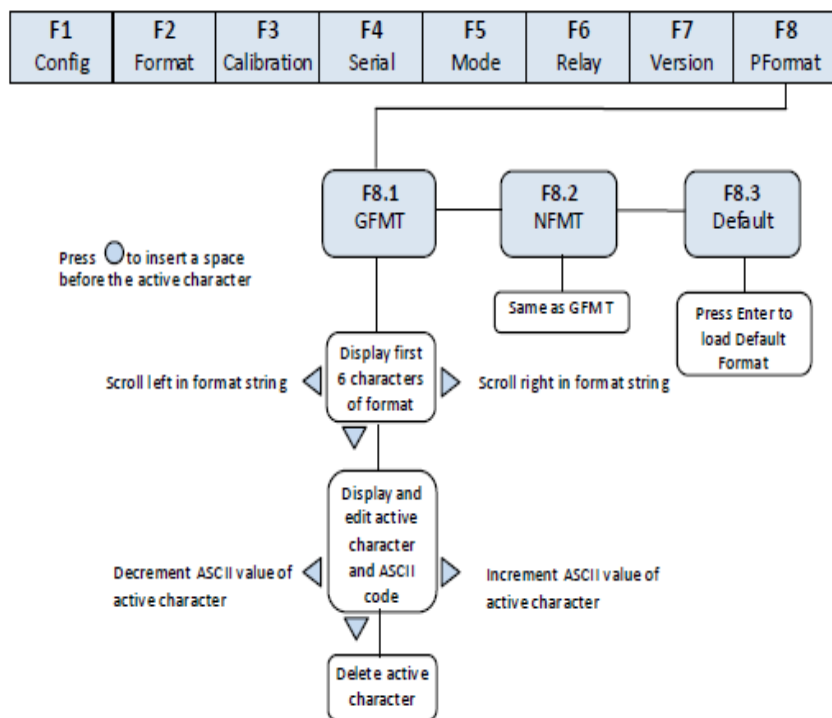

Fig. 13.2.1 Print Format Input Flow Diagram
- (1) Turn on the SW2 switch to set indicator to the Configuration mode (display shows "F1")
- (2) Press  to show "F8" (see Fig. 13.2.1). Press  to Print Format Menu and display shows "F 8.1".
- (3) When display shows "F8.1", press  again and display shows the first 6 digits of GFMT format.
- (4) Use ,  to move the cursor to different flashing digits. When it is at the far right position, press  again, the first digit at the left is removed and another digit prompts up at the right. When it is at the far left position, press , the last digit at the right is removed and another digit prompts up at the left. Press  to add a space to the left of the flashing digit.
- (5) When the cursor is at a certain digit position, press  to edit. Display shows the characters as shown in Appendix 15.5. "_" is shown for characters not available in Appendix 15.5.
- (6) While editing, use ,  to move between characters. To delete a character from the string press . Once deleted the indicator will return to F8.1.
- (7) When character editing is completed, press  to return to (4) above and to perform editing other characters. When finish editing, press  to return to F8.1 and display shows "F8.1".
- (8) Press  to go to F8.2 Menu and display shows "F8.2". Refer to (3) to (7) for format editing of NFMT.
- (9) After finishing, turn off the SW2 switch to exit from Calibration mode and enter into Weighing Mode.
- (1) Turn on the SW2 switch to set indicator to the Configuration mode and display shows "F1".
- (2) Press  until display shows "F8" (see Fig. 13.2.1). Press  to go to Print output menu and display shows "F8.1".
- (3) When display shows "F8.1", press  twice and display shows "F8.3".
- (4) When display shows "F8.3", press  to show "Set?". There are 2 options then:
- (5) Turn off the SW2 switch to exit from Calibration mode and enter into Weighing Mode.
- (1) Turn on the SW2 switch to set indicator to the Configuration mode. Display shows "F1".
- (2) Press  until display shows "F7" (see Fig. 13.2.1). Press  to go to F7.1 Menu. Display shows "F7.1"